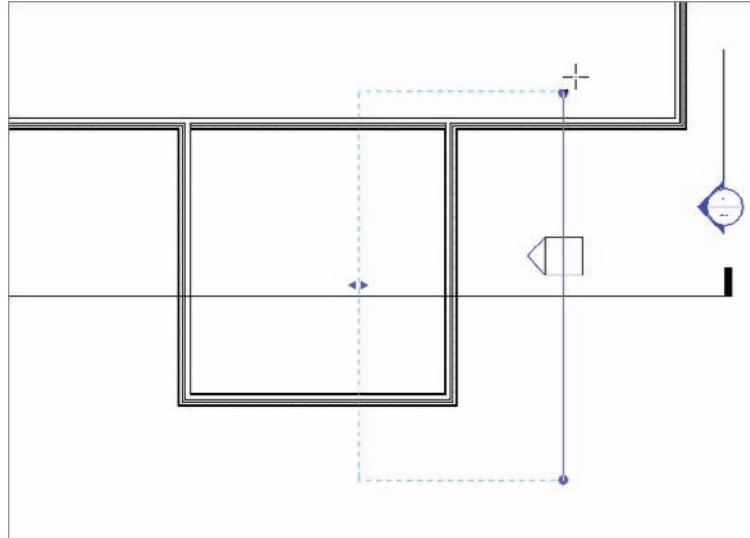

FIGURE 3.78 The elevation is placed. You can select the view arrow and move the extents of the elevation into the building.
3. Pick a place for the elevation, as shown in Figure 3.78, and press Esc to terminate the command.
4. When the elevation is placed, select the triangle. You will see the same extents window as you saw in the previous section (see Figure 3.78). This controls how deep into the model you are viewing, and it also shows you the length of the section. Because you placed this elevation up against a wall, Revit will stop the extents of the elevation at that wall.
5. Pick the top grip and stretch the elevation past the wall, as shown in Figure 3.78.